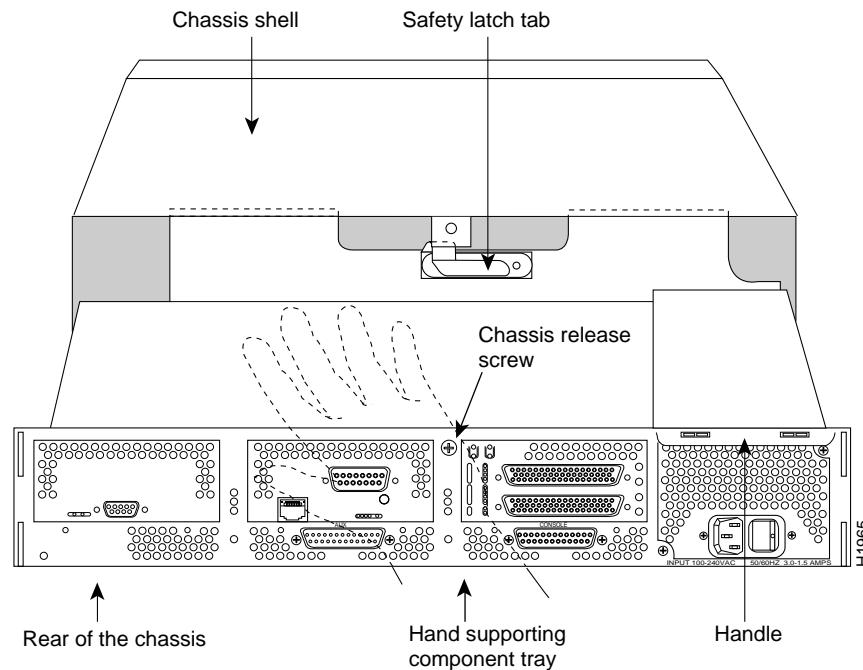

Figure 2 Supporting the Component Tray During Removal
- Step 4** Loosen the (nonremovable) screw in the back of the chassis, labeled *Chassis release screw* in Figure 2.
- Step 5** Slide the component tray out of the chassis shell while facing the chassis rear panel, pulling the handle on the right side of the chassis until the safety latch catches. (See Figure 2.)
Warning Before releasing the safety latch, support the component tray from underneath, either on your work surface or with your hands, to prevent it from falling. (See Figure 2.)